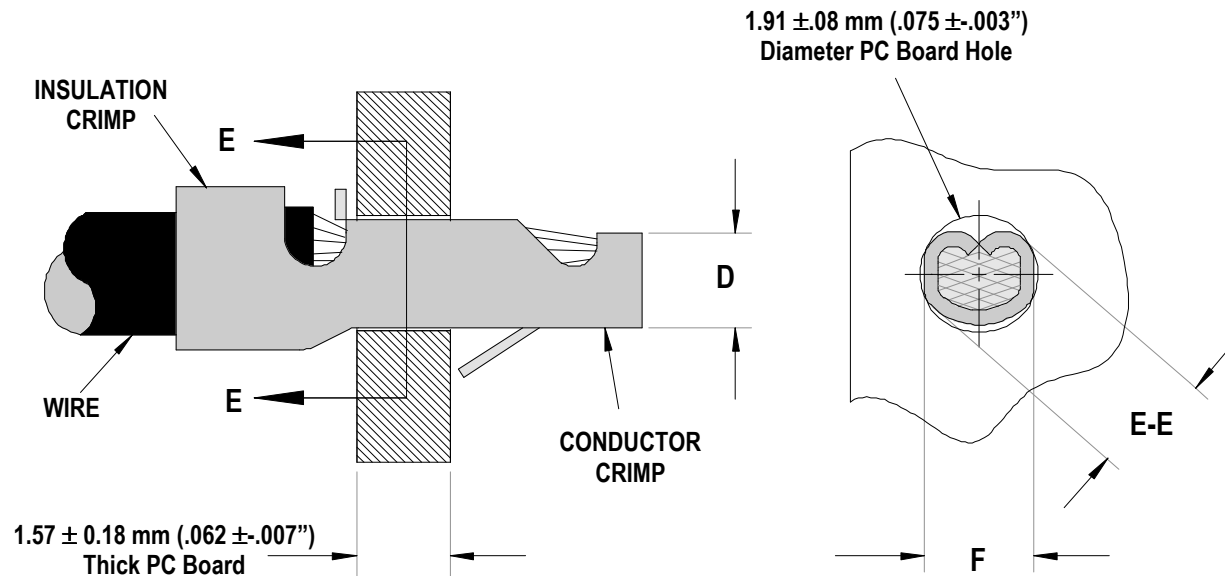
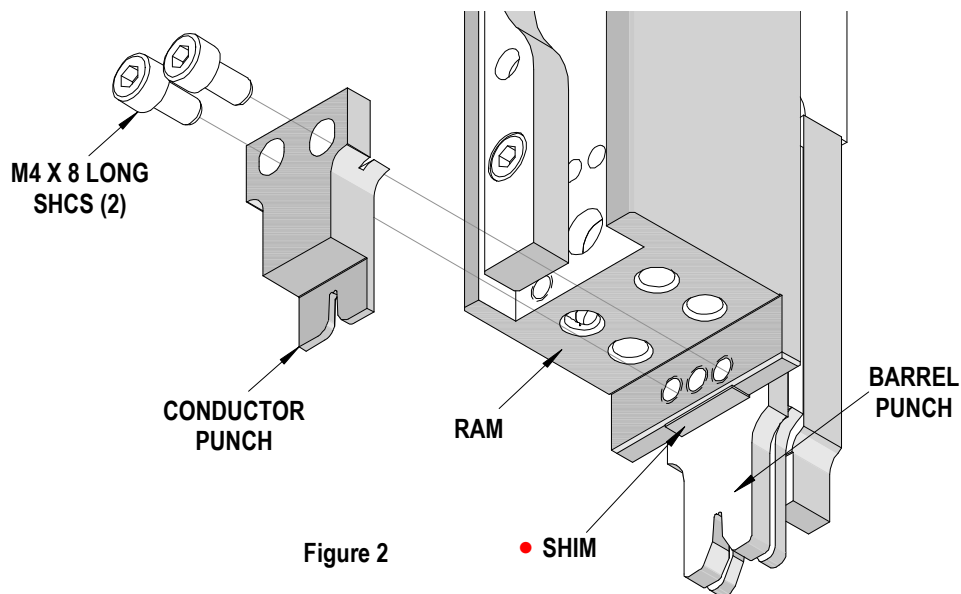

Figure 1
Figure 2
After crimping, the conductor profiles should measure the following (See Figure 1).
| Terminal Series No. | Wire Size | | Dimensions (Figure 1) | | | | | | Pull Force Minimum (4) | |
5. To achieve the conductor crimp height (D dimension in Figure 1) for 22 and 24ga wire, a 0.25mm (.010") thick shim is required if your crimp press is not equipped with adjustable shut height. This shim is not supplied with the applicator. The shim should be located between the Ram and the Conductor Punch. See Figure 2.